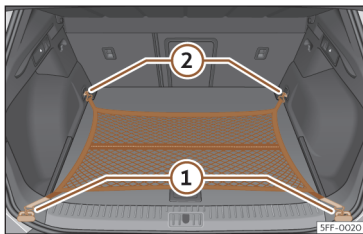

Fig. 190 In the boot: net bag hooked up at floor level.
- Secure the net hooks to the fastening rings >>> Fig. 190 ① and ② >>> ⚠. The bag zip should be facing upwards.